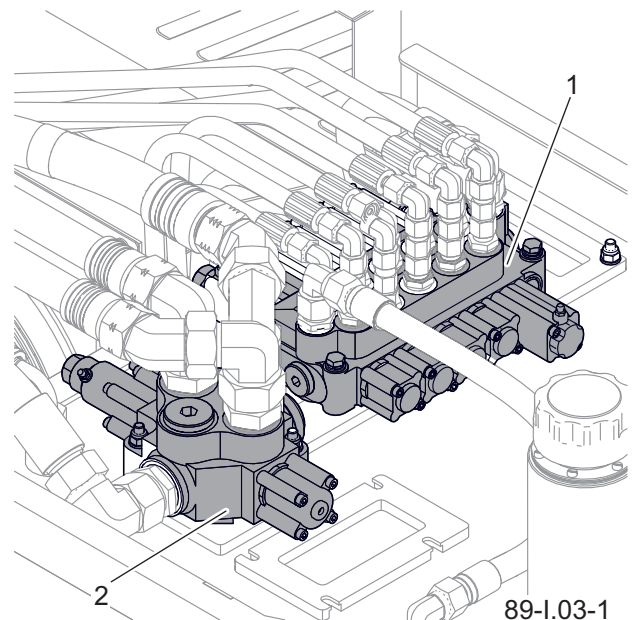
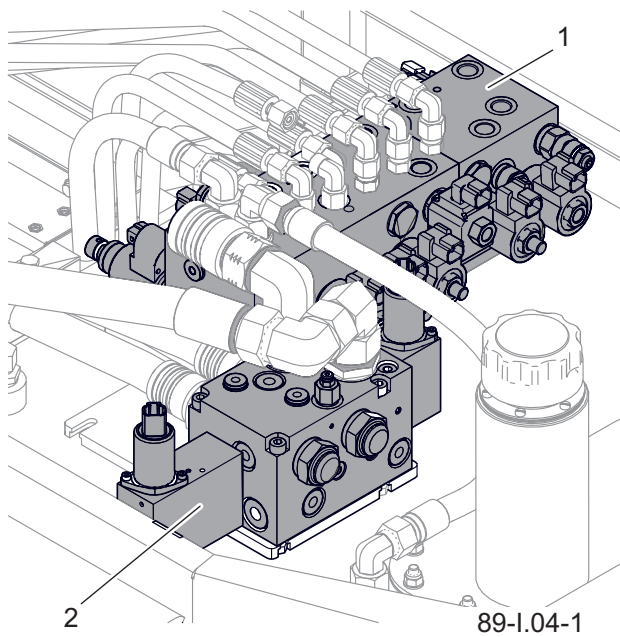

Figure 5.3 Hydraulic selective control valves (WWT800T).
Figure 5.4 Hydraulic selective control valves (WWT804T).
Hydraulic selective control valve (1) (FIGURE 5.3 - WWT800T) or electrohydraulic selective control valve (1) (FIGURE 5.4 - WWT804T) is used for controlling the 5 hydraulic cylinders of the carrier system. Single-section hydraulic selective control valve (2) (FIGURE 5.3 - WWT800T) or electrohydraulic selective control valve
(2) (FIGURE 5.4 - WWT804T) is used for starting the working head hydraulic